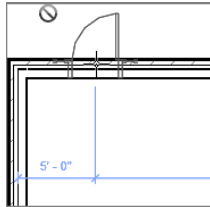

FIGURE 1.55: Inserting a hosted family (.rfa)
9. Zoom in on the upper-left corner of the building, as shown in Figure 1.55.
10. To insert the door into the model, you must place it in the wall. (Notice that before you hover your cursor over the actual wall, Revit won't allow you to add the door to the model, as shown in Figure 1.55.) When your pointer is directly on top of the wall, you see the outline of the door. Pick a point in the wall, and the door is inserted. (We'll cover this in depth in the next chapter.)